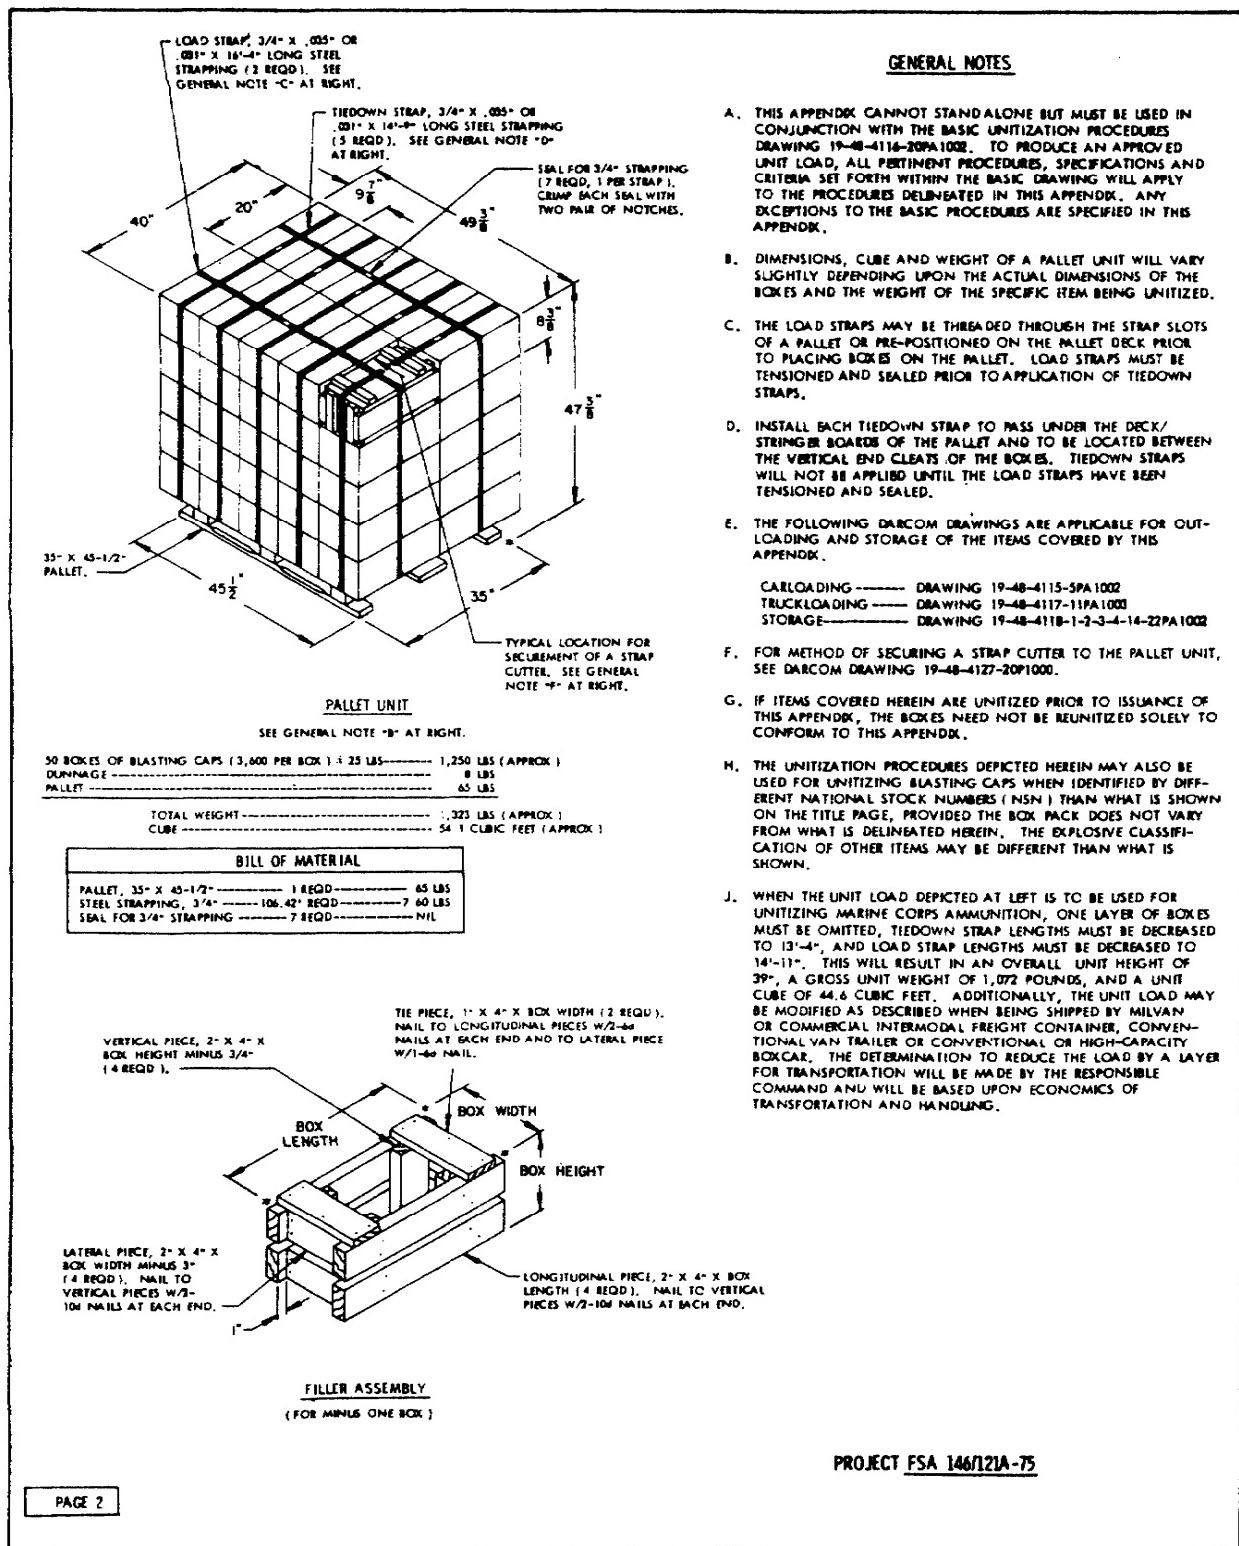

Figure 3-12. Extract: Page 2, Appendix 121A, Drawing 19-48-4116-20PA 1002.
*Item 2.* Inspect each pallet to determine if it is the correct size for the quantity of items on the pallet. You will find this information in Drawing 19-48-4116-20PA1002, Appendix 121A (see the extract in figure 3-11). You will note that this size pallet calls for 50 boxes containing 3,600 blasting caps per box. The total per pallet is 180,000 blasting caps. Next, turn to page 2 of this appendix. On it is the information you need to determine if the containers of blasting caps have been palletized correctly (see the extract in figure 3-12).